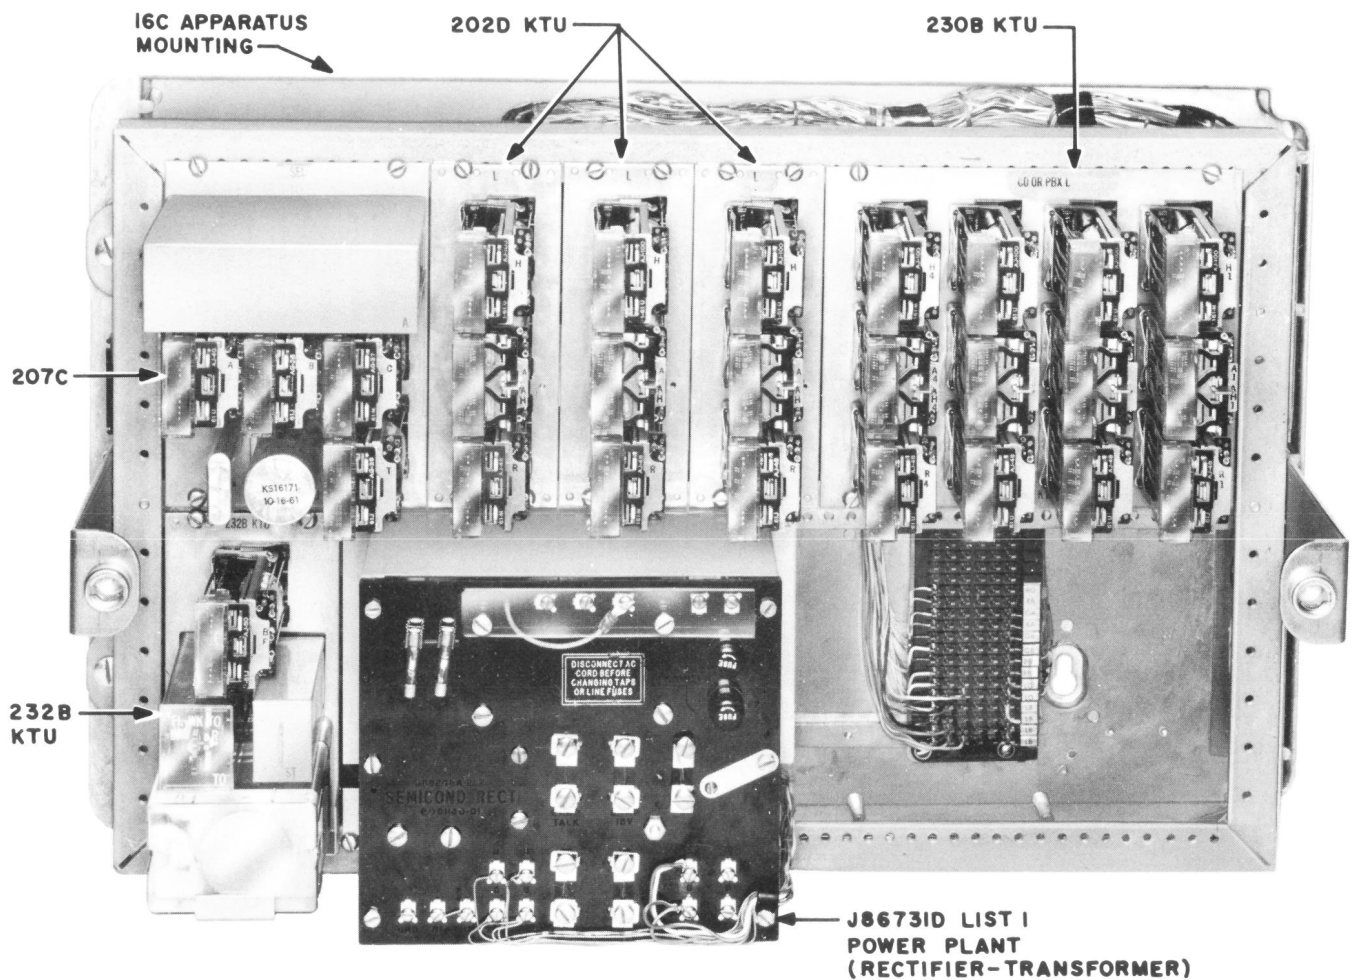

Fig. 4 — 311A8D KSU, Gate Closed
2.19 Fig. 4 shows the 311A8D key service unit with the gate closed.